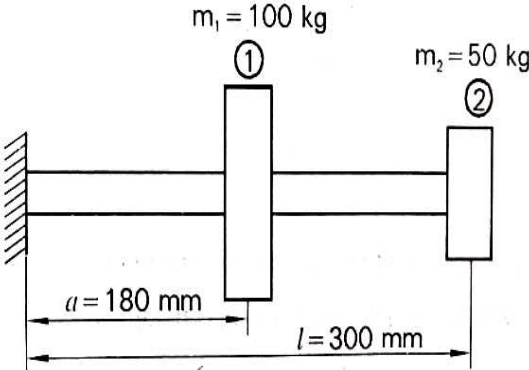

Fig. 9b
- b. Find the lowest natural frequency of vibration for the system shown in the Fig. 9b by Rayleigh's method. $E = 1.96 \times 10^{11} \text{ N/m}^2$, $I = 4 \times 10^{-7} \text{ m}^4$. 10